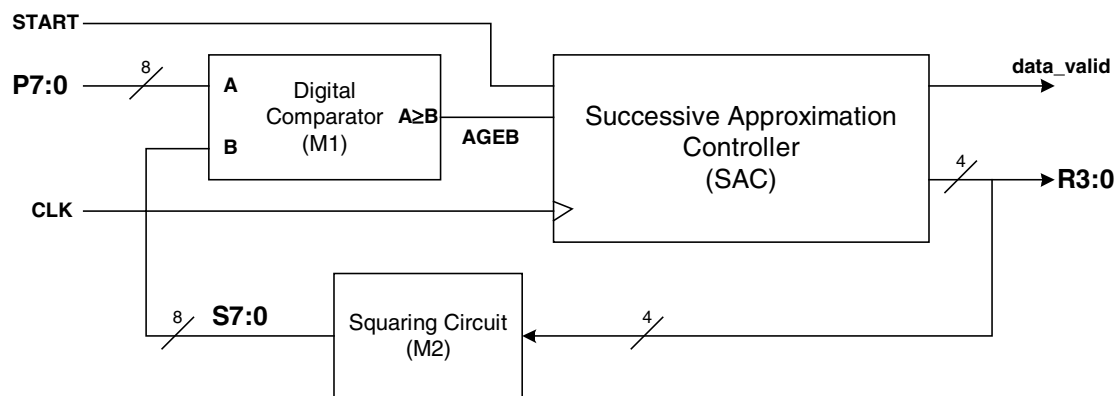

Figure 2a
3. *Figure 2a* shows the block diagram of a circuit to compute the square root R of an 8-bit unsigned integer P . The digital comparator (M1) compares the two unsigned inputs A and B , and produces an output $AGEB$ if $A \geq B$. The squaring circuit (M2) multiplies its 4-bit input by itself to produce an 8-bit square value S .